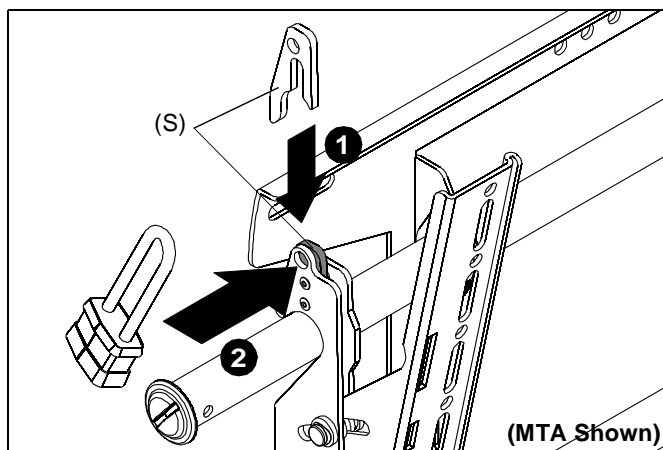

Figure 10
1. Add optional security bracket (S or T) to the mount. (See Figure 10)